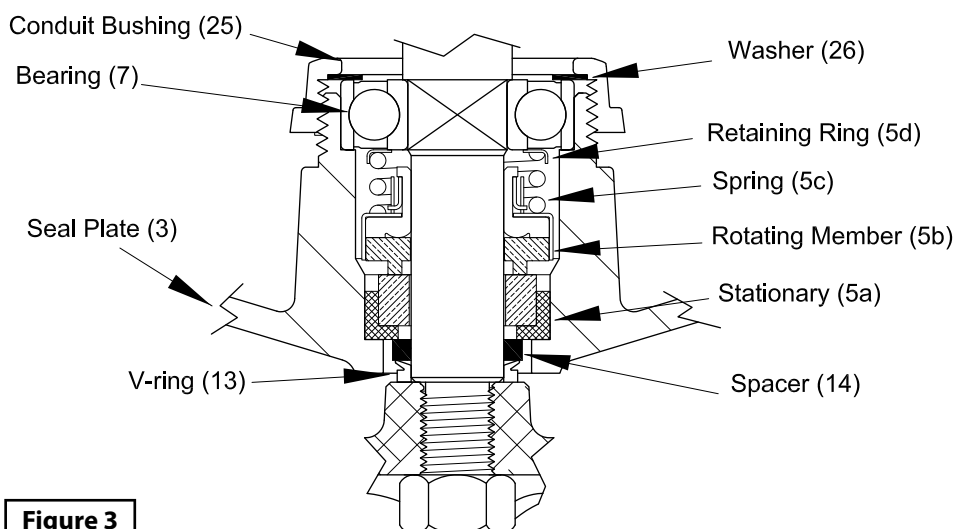

Figure 3
Remove rotating member (5b), spring (5c) and retaining ring (5d), from shaft (see Figure 3). Inspect for signs of uneven wear pattern on stationary member, chips and scratches on either seal face. Replace the complete seal if any part is damaged.
1. To reassemble, clean seal cavity in seal plate (3) and oil.
2. Press seal's (5) stationary member (5a) firmly into seal plate (3), using a seal tool or pipe. Nothing should come in contact with the seal face except the seal tool. Be sure the stationary is in straight. Lightly oil (**Do not use grease**) shaft and inner surface of bellows.
3. Slide retaining ring (5d) and spring (5c) over shaft and let rest on bearing. Lightly oil (Do not use grease) shaft, bullet and inner surface of bellows on rotating member (5b). See Figure 3.
5. Place conduit bushing (25) and washer (26) onto shaft.
6. Slide rotor/shaft (6) with bearing (7) and seal (5) into seal plate (3) until bearing (7) seats into seal plate.
7. Locate washer (26) into place on bearing and tighten conduit bushing (25) onto seal plate (3).
8. Place stator (6) over rotor (6), lining up motor bolts with holes in seal plate (3).
9. Position capacitor (29) on motor with clamp (30) and reconnect capacitor leads.
10. Torque motor bolts to 17 in-lbs. Set square ring (11) in groove on seal plate (3).
11. Lower motor housing (4) down onto seal plate (3) while aligning holes and stringing motor leads through the cord entry bore.
12. Place socket head screws (15) through seal plate (3) into housing (4) and torque to 60 in-lbs.